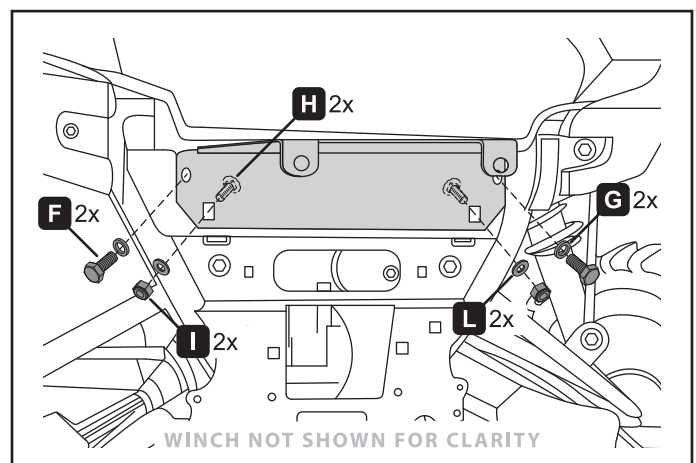

Figure 5.
5. Attach winch mount (A) assembly to your machine with bolts (F, H), washers (G, L) and nuts (I) as shown in figure 5.